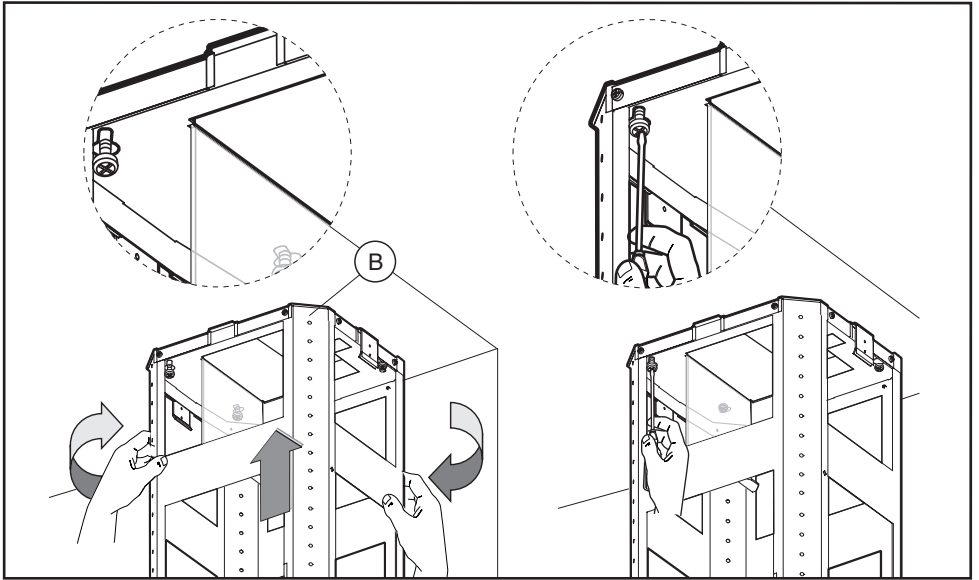

Fig.3
- Take the upper part of the structure **B** (**Fig.3**) and insert the 3 slots onto the 3 screws that are not completely tightened. Rotate slightly to fit (**Fig.3**).
Fig.3: To fix the air diverter **A** on the support's bracket using the screw **B** as it is shown in the figure. Once that the air diverter **A** has been fixed, it is necessary to connect the flexible pipe (**6" ROUND FLEXIBLE METAL DUCT PIPE NOT INCLUDED**).